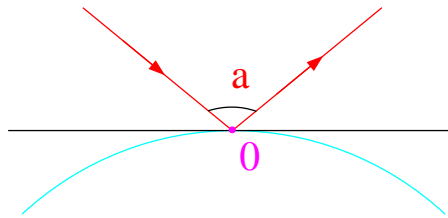
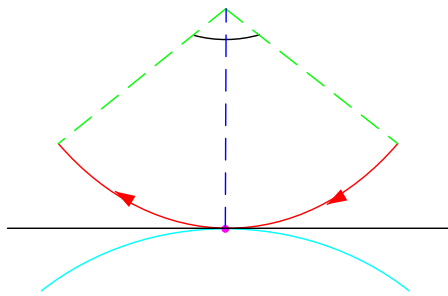

Fig. 10-3 [Tine Lead-in line]
Fig. 10-4 [Arc Lead-in line]
- [Angle]: The angle between the two sides of lead-in line, the size of angle is as angle “a” in Fig.10-3, Fig.10-4, Fig.10-5.